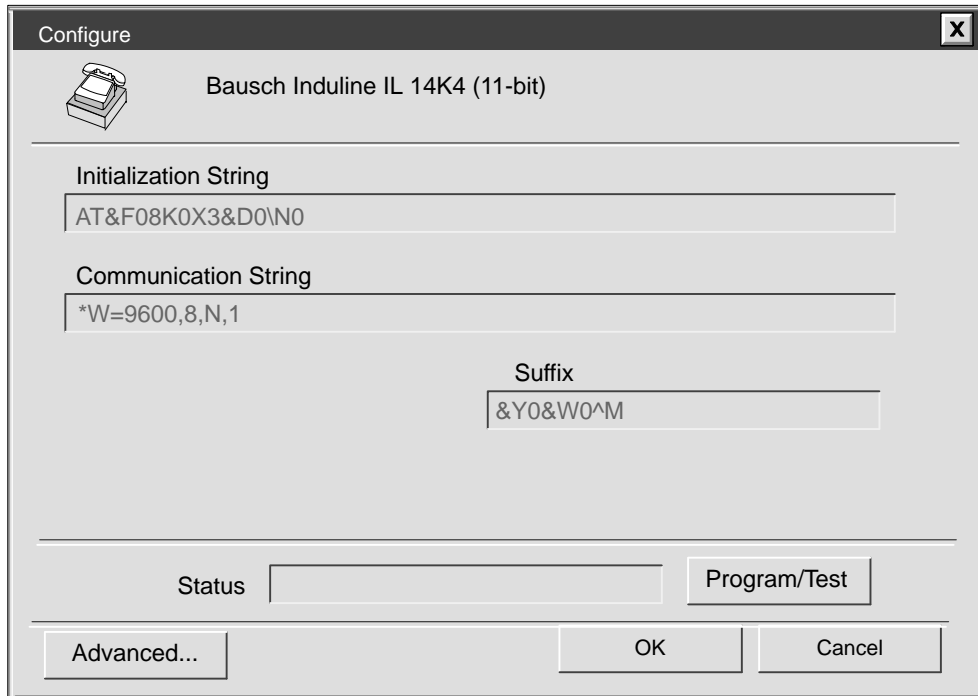

Figure 7-15 Remote Modem Configuration
4. The Configure dialog box appears (Figure 7-15). If you are using a predefined modem, there are no fields that you can edit. If you are not using a predefined modem, you must enter the AT command string for your modem. Refer to the documentation for your modem.